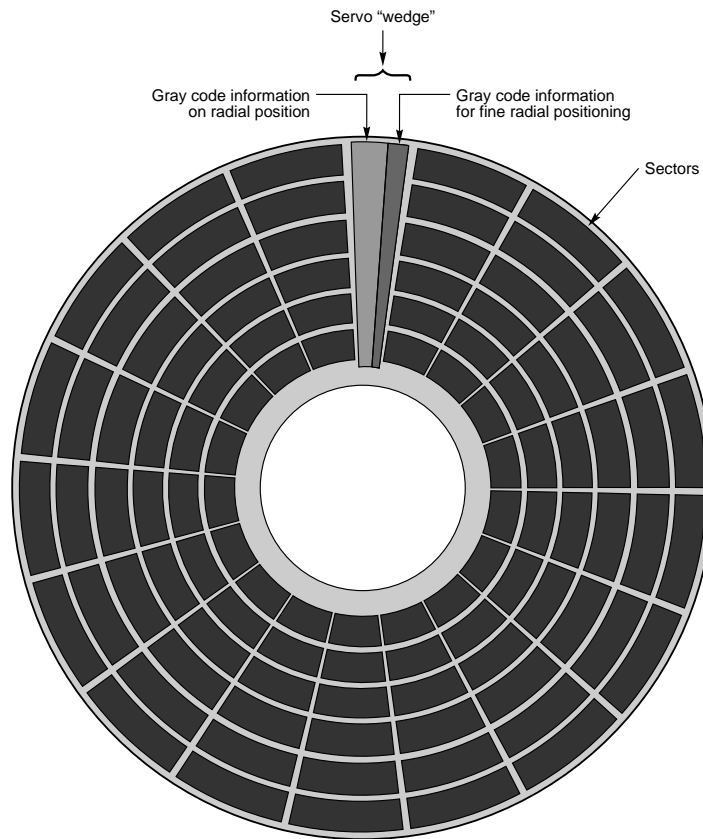

FIG. 14.6 A wedge servo.
**Wedge Servo.** Some early servo-controlled drives used a technique called a *wedge servo*. In these drives, the gray-code guidance information is contained in a “wedge” slice of the drive in each cylinder immediately preceding the index mark. The index mark indicates the beginning of each track, so the wedge-servo information was written in the Pre-Index Gap, which is at the end of each track. This area is provided for speed tolerance and normally is not used by the controller. Figure 14.6 shows the servo-wedge information on a drive.